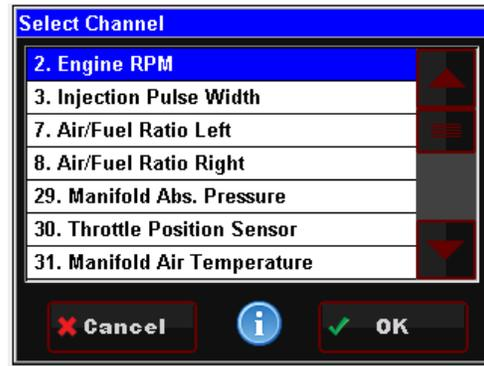

Figure 10 – List
**List:** Use the scroll bar on the right hand side of the screen to view all list entries. Touch the desired list item and click ‘OK’ to make a selection (**Figure 10**).